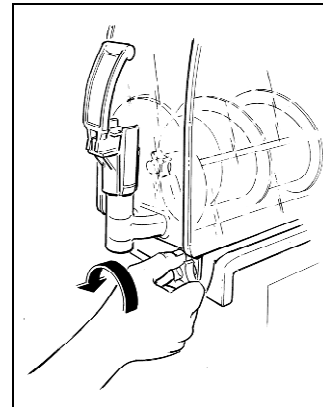

Fig. 17
- Unscrew and slip off the knobs (fig.17) then lower the bowl to eliminate any product residue through the dispensing tap.